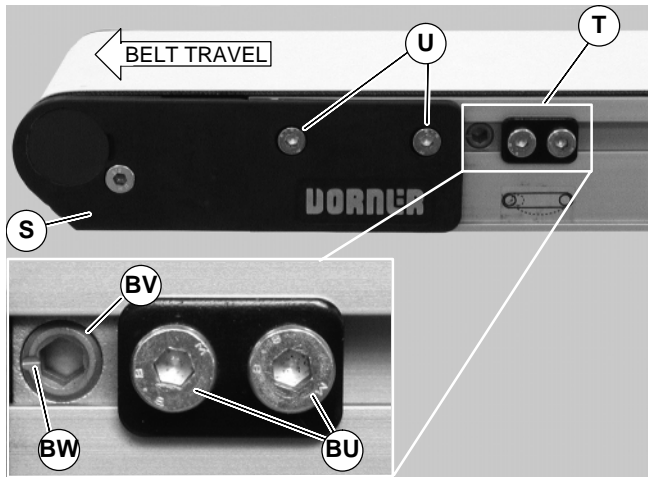

Figure 42
Non V-guided belt conveyors are equipped with belt tracking cam assemblies (T of Figure 42) for belt tracking adjustment.
1. Ensure head plate fastening screws (U of Figure 42) on both sides of conveyor are tightened.
2. On both sides of conveyor, loosen two (2) cam fastening screws (BU). Adjust cams (BV) until indicator slots (BW) are horizontal and facing end of conveyor. Then slide cam assemblies against head plates (S) and re-tighten cam fastening screws (BU) to 7 Nm.
3. On the side toward which the belt is tracking, loosen head plate fastening screws (U).
4. With the conveyor running, use a 5 mm hex-key wrench to rotate the tracking cam (BV) in small increments until the belt tracks in the center of the conveyor. Then while holding the cam in position, re-tighten the head plate fastening screws (U) with a 4 mm hex-key wrench to 7 Nm.